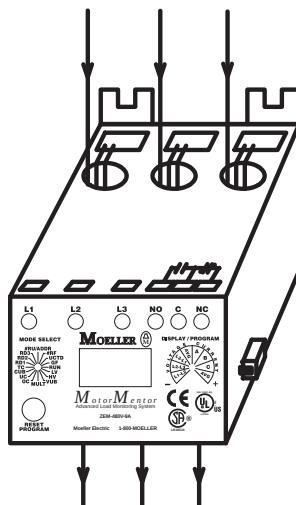

Figure 3: Looping Example Showing Three Conductors (MULT=3 from table 1)
B) For amperages less than 26 amps, loop the motor conductors according to table 1. Figure 3 shows an example of the looping required for current ranging from 8.1 to 12 amps (MULT=3).